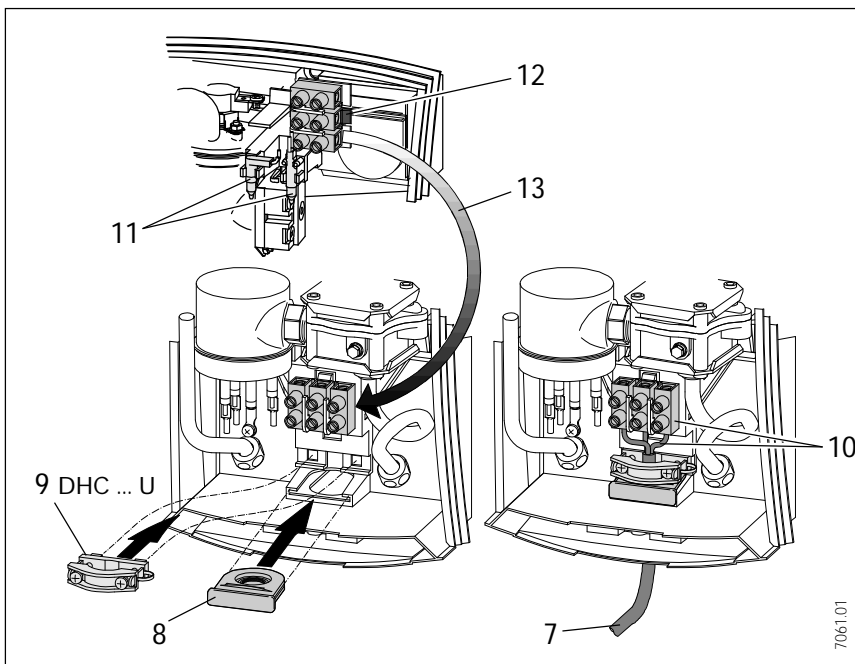
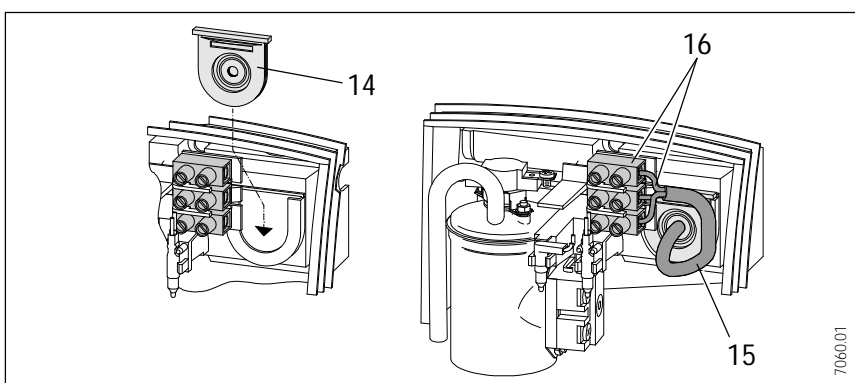

Fig. 16
Fig. 17
3. Cut electrical connection lead to length as per Fig. 16, and strip off the insulation (not required for DHC 3 U).
⚠ To provide protection against the penetration of water, the cable seal (Fig. 16, Item 8, or Fig. 17, Item 14) must be used. Cut out the sealing diaphragm to fit the electric cable.
DHC 3 U (Fig. 16)
DHC 6 U (Fig. 16):
- Connection in the upper part of the unit/surface installation or concealed installation (Fig. 17).